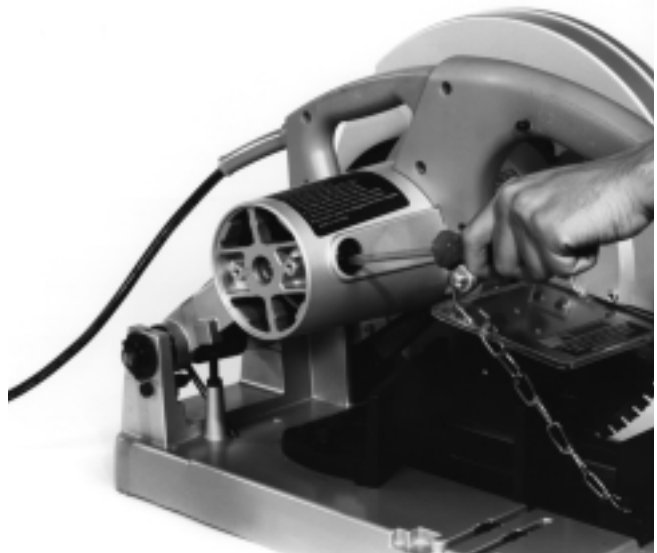

Figure 11 – Removing Brush Caps
2. Use the slotted (-) screw driver to remove the brush caps (Figure 11).